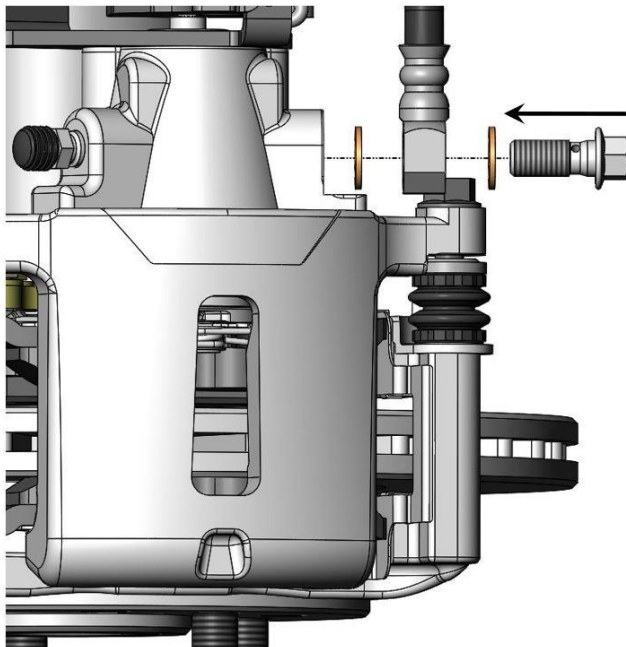
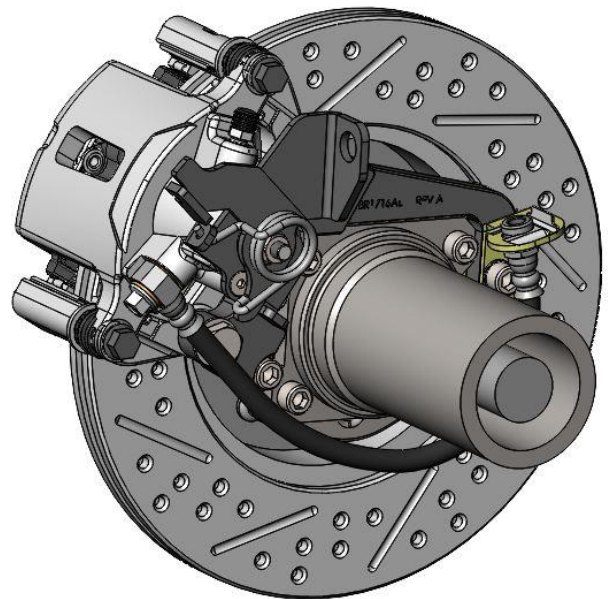

Figure 10a – Brake Hose Attachment to Caliper
Figure 10b – Brake Hose Properly Installed
13. Install the flexible brake hose. Attach the brake hose to the caliper using the provided banjo bolt and copper crush washers as shown in Figure 10a below. Next route the hose under the axle tube and attach it to the previously installed Brake Hose Mounting Bracket with the provided clip. Attach the hardline to the brake hose. **NOTE: Depending on the location and fitting size on the OEM hardline, it may be necessary to shorten and re-flare along with slightly bending the hardline to line up properly.** Proper installation of the flexible brake hose can be seen in Figure 10b below.